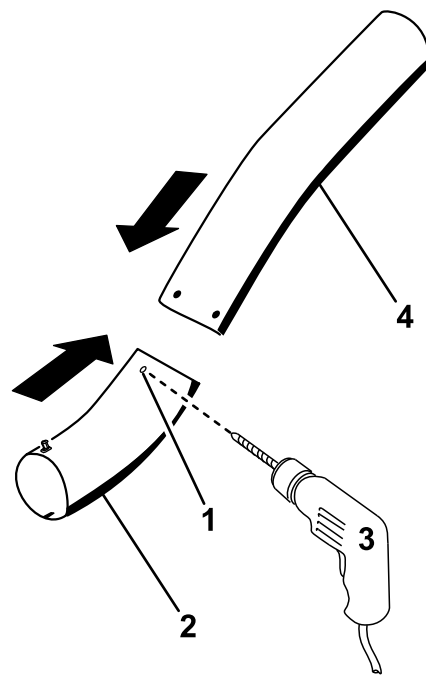

Figure 33
11. Using the existing holes in the upper tube as a template, drill 2 holes, 6.5 mm (1/4 inch) diameter, through the dimples on the lower tube (Figure 33).
14. Install the washers (1/4 inch) onto the bolts (Figure 33).
15. Using a hex key tool, install the screws (1/4 x 3/4 inch) and washers (1/4 inch) from the inside of the lower tube and through the existing holes in the upper tube (Figure 33).
16. Secure the tubes together with the nuts (1/4 inch) as shown in Figure 33.